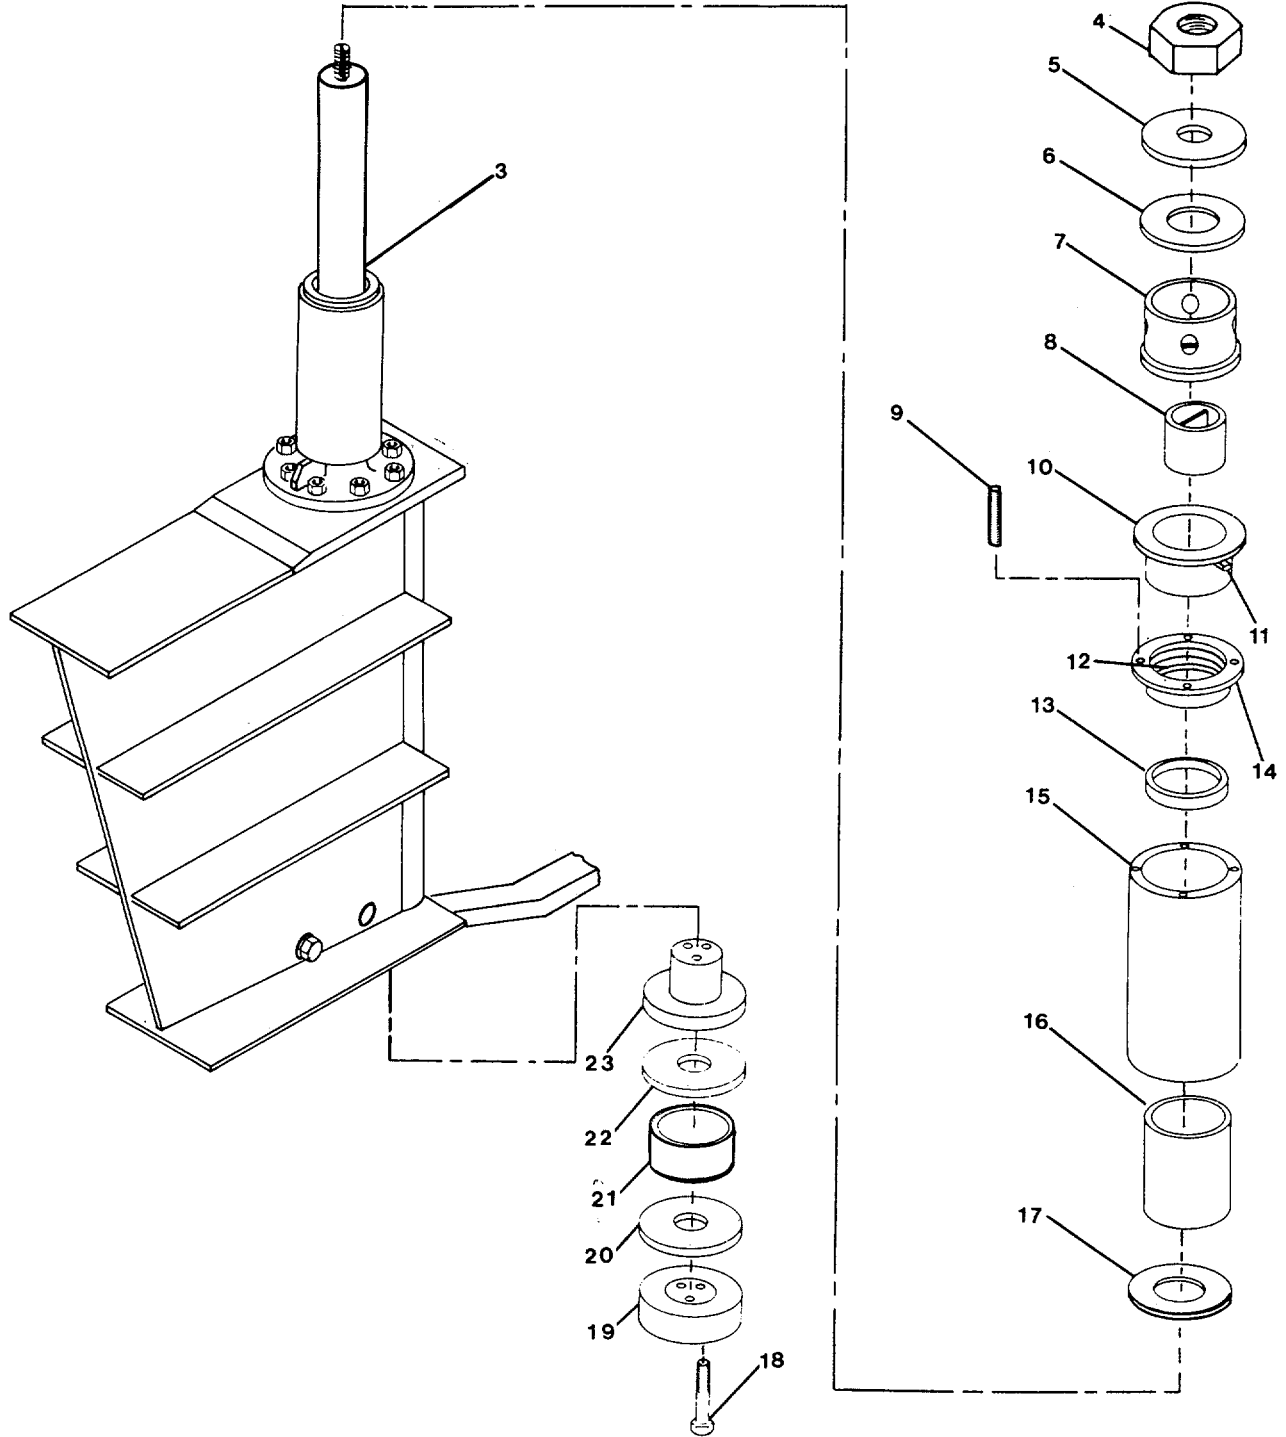

FIGURE 4-4. Rudder Assembly.
**4-11. Replace/Repair Rudder Assembly. (FIGURE 4-4)**